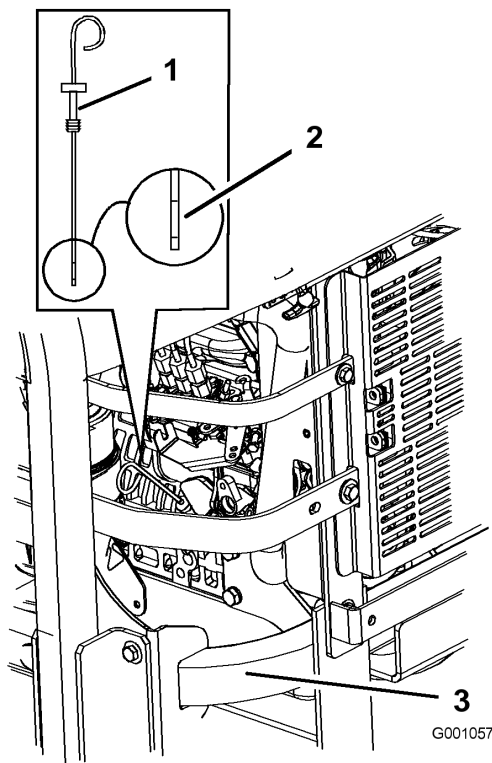

Figure 34
3. Clean around the oil dipstick (Figure 34) so dirt cannot fall into the filler hole and damage the engine.
4. Pull the oil dipstick out and wipe the metal end clean (Figure 34).
5. Slide the oil dipstick fully into the filler tube. Pull the dipstick out and look at the metal end (Figure 34). If the oil level is low, slowly pour only enough oil into the fill hole to raise the level to the full mark.